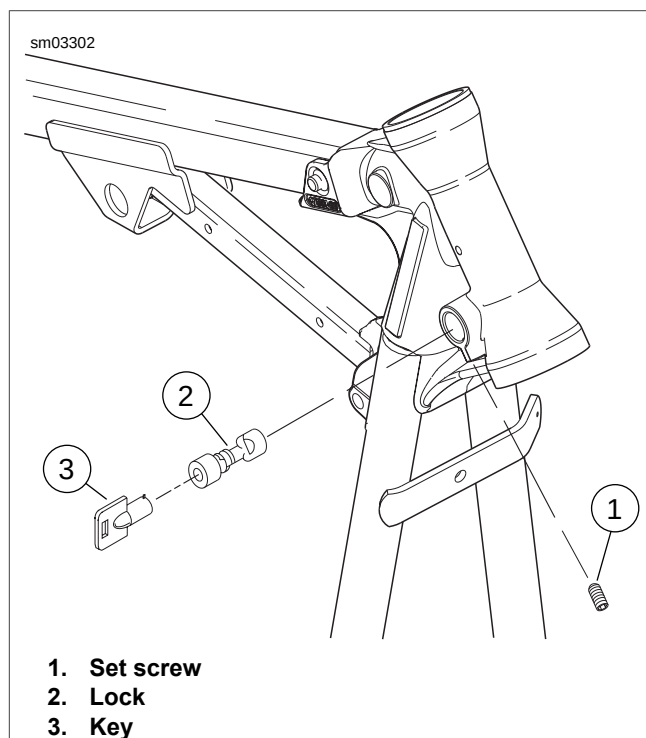

Figure 2-126. Fork Lock Installation
2. See Figure 2-126. Remove set screw (1).
3. Insert key (3) in lock (2) and turn partially.
4. See Figure 2-126. Apply LOCTITE 243 MEDIUM STRENGTH THREADLOCKER AND SEALANT (blue) to set screw (1) and install.
5. Insert key in the lock and tighten set screw (1) until lock begins to bind; then back set screw out 1/2 turn.